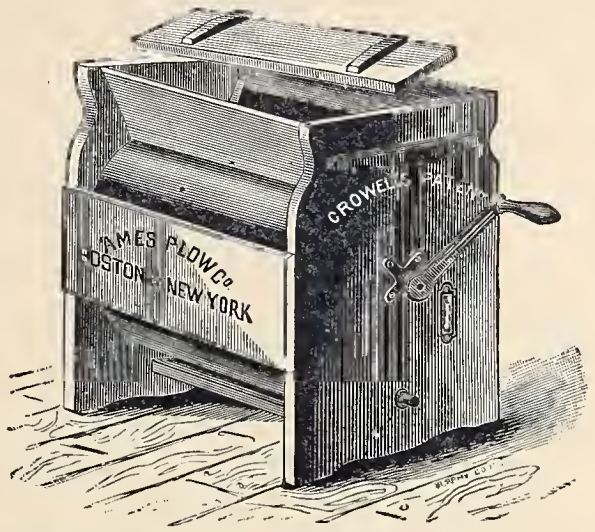

Fig. 460.—Thermometer Churn.
*The Thermometer Churn*, represented by *Fig. 460*, the result of a series of careful scientific experiments, is offered confidently to butter-makers. In churning, the milk or cream should be of a suitable temperature ; but if warm or cold water is added, to produce the desired temperature, the butter is then invariably poor in quality, and limited in quantity.